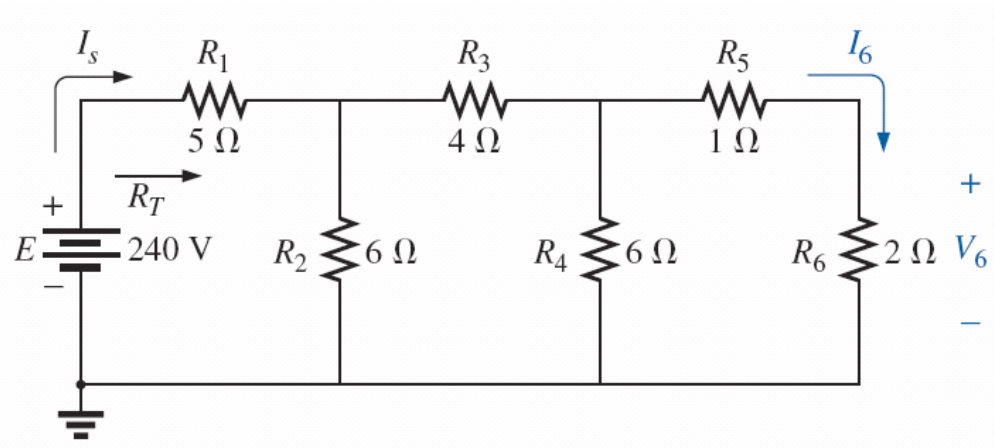

FIG. 7.32 Ladder network.
- ❖ A three-section **ladder network** appears in Fig. 7.32.